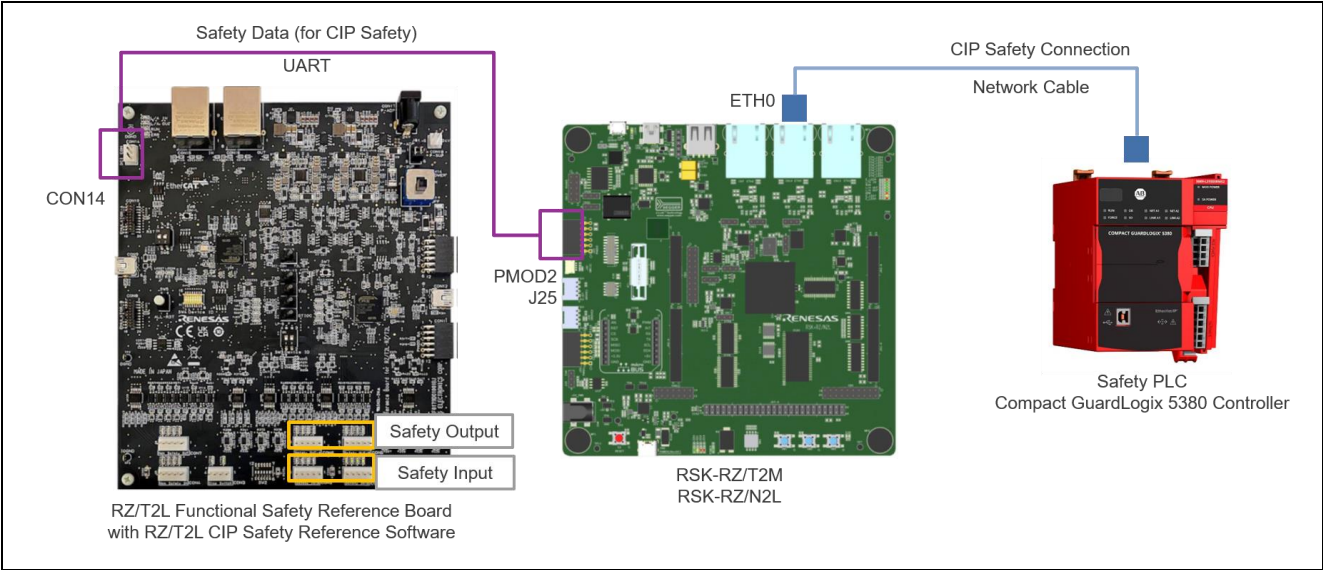

Figure 9.5 Topology when CIP Safety feature is enabled (RZ/T2M, RZ/N2L)
4. Connect the devices as shown in Figure 9.5 and Table 9.3.